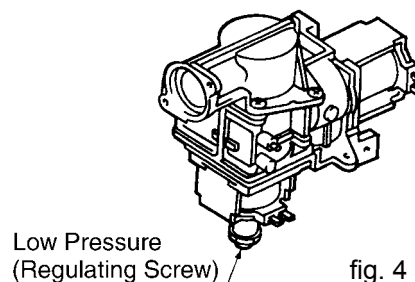

fig. 4
- 11) Adjust the regulator screw on the modulating valve as required to the pressure below. (fig. 4).